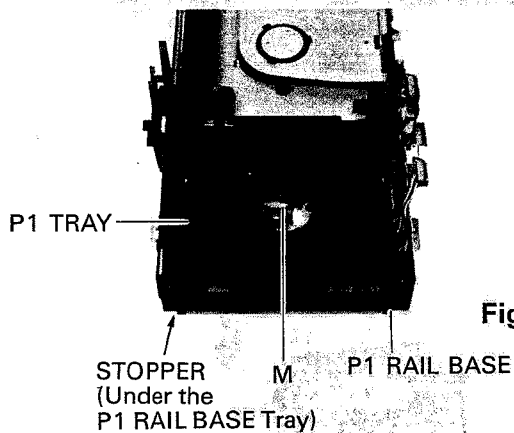

Fig. 8
(8) Removing the P1 RAIL BASE (Fig.8,9)